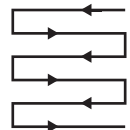

Fig. 16
5. Mow in slight overlapping rows. The most effective pattern for mowing lawns is straight lines along one of the sides. This will keep the rows even and ensures that all the lawn is cut without missing any spots (Fig. 16).
8. Empty the grass catcher (8) regularly.